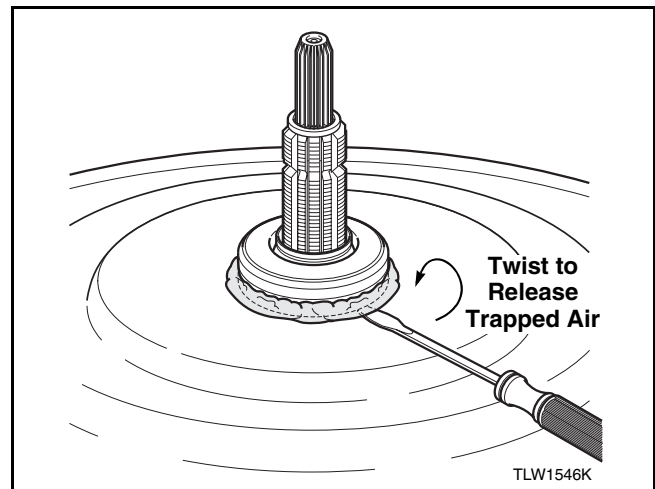

Figure 63
t. Insert a flat bladed screwdriver between tub bottom and under lip seal. Twist to release any air trapped between lip seal and bearing. Refer to *Figure 63*.